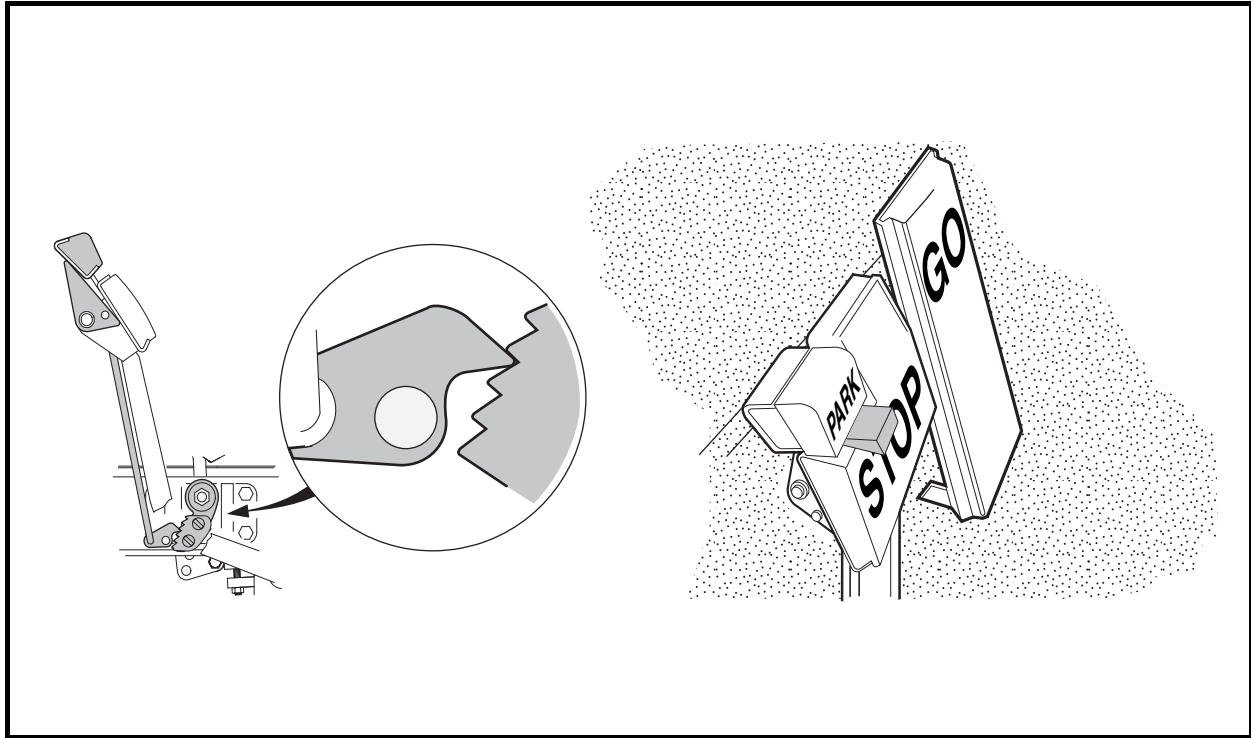

Figure 6-33 Set Park Brake and Insert Wedge
1. Set park brake in the third tooth of the ratchet. Place a wedge between the park brake pedal and brake pedal to prevent the park brake from disengaging while equalizing the brake cables (**Figure 6-33, Page 6-16**).